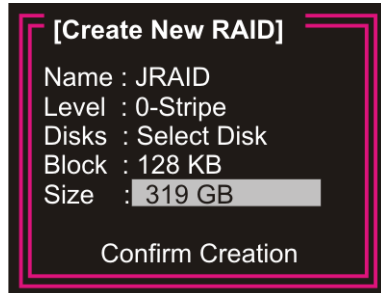

Figure E-8: Set the RAID volume size
Step 6: The **Size** item is then highlighted (**Figure E-8**). Enter the RAID volume size. The default value is the maximum volume size allowed.